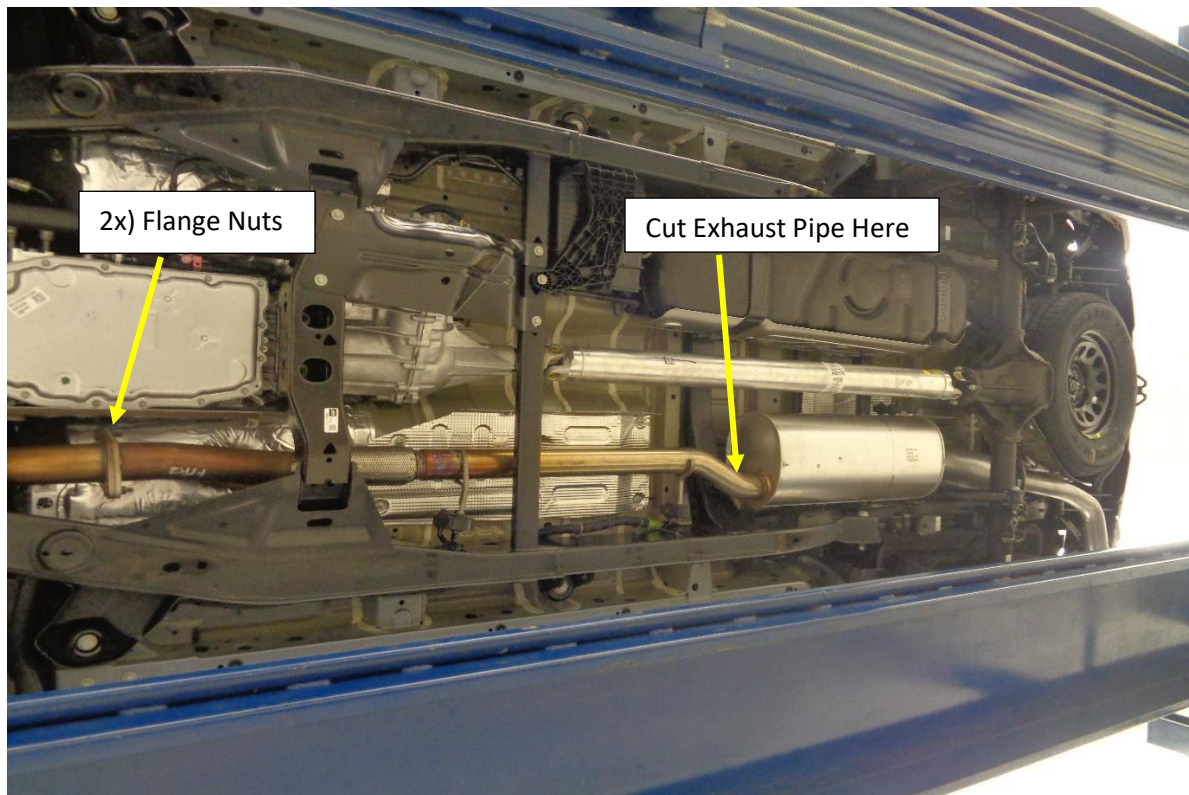

Figure.1
2. Remove the (x2) 15mm nuts at the two-bolt flange connection. **Fig.1**
3. Cut the exhaust pipe just before the muffler with a reciprocating saw. **Fig.1**
4. Remove the (5) rubber Isolators from the hanger rods.
2. Install the OEM rubber hanger rod isolator with the two frame pins. **Fig.1**